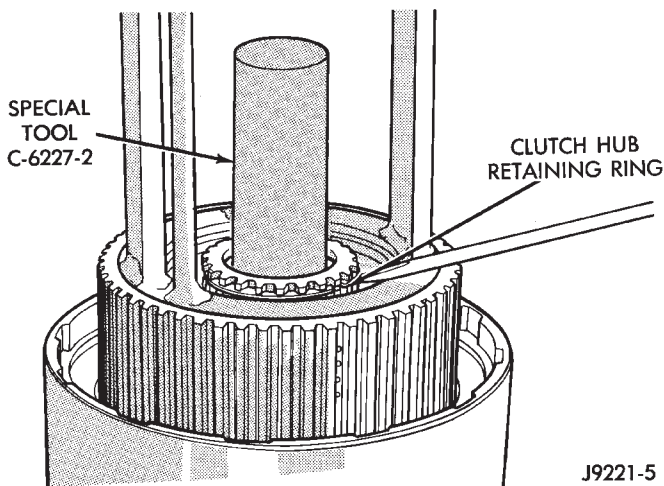

Fig. 345 Installing Clutch Hub Retaining Ring
(29) Install clutch hub retaining ring (Fig. 345). **Be very sure retaining ring is fully seated in sun gear ring groove.**